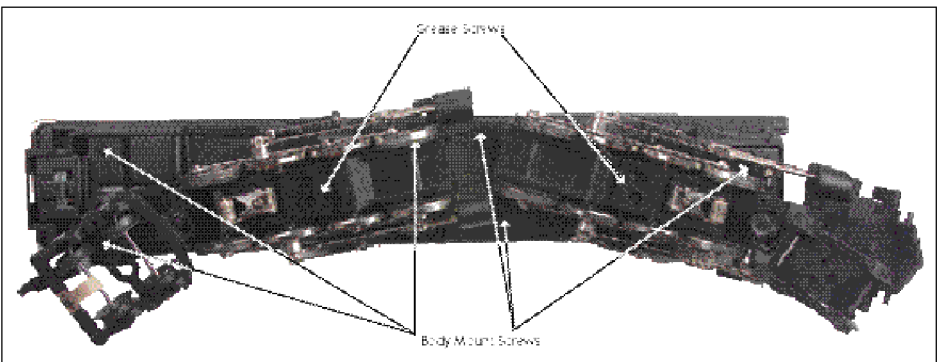
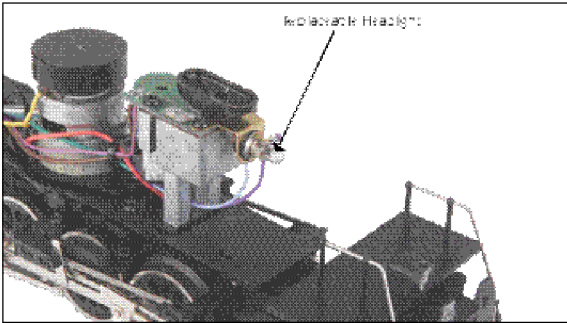

Figure 3 - Greasing points on the engine & location of body mount screws
Figure 7 - Replacing the Headlight
1. Unscrew the Grease screws as shown in Figure 3 and use an applicator to apply grease into these screw holes.
Remove the locomotive boiler from its chassis as shown in figure 3 on page 10. Once the boiler has been removed, rotate the headlight bulb counter-clockwise as seen in figure 7 to remove.